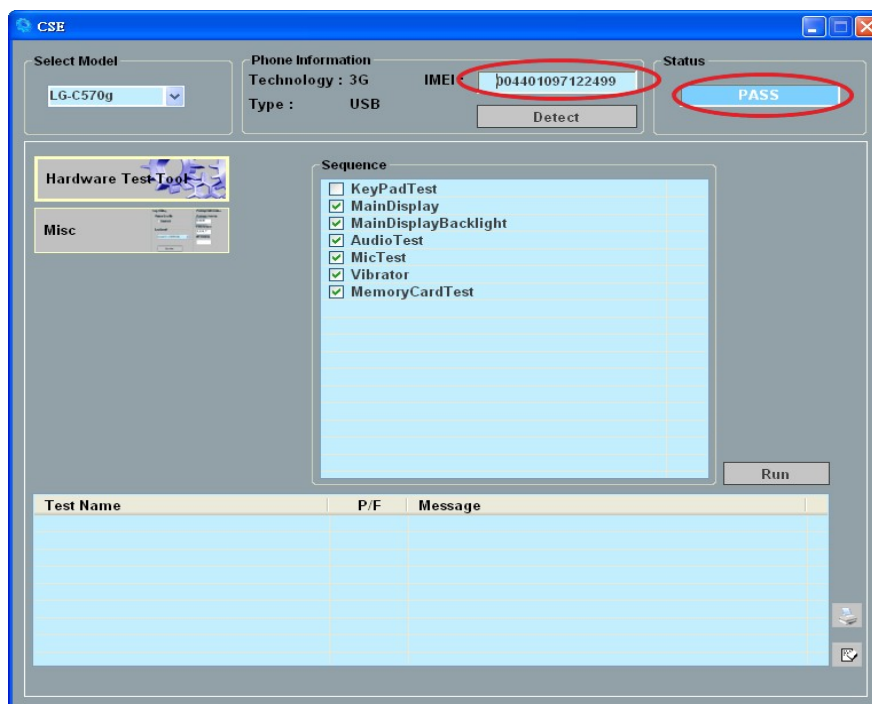

Figure 4 IMEI after a successful connection
5. The IMEI number will appear in the inline editor of the group box “Phone information” if there is a successful connection. Meanwhile, the editor in the group box “Status” will show “Pass” [Figure 4].